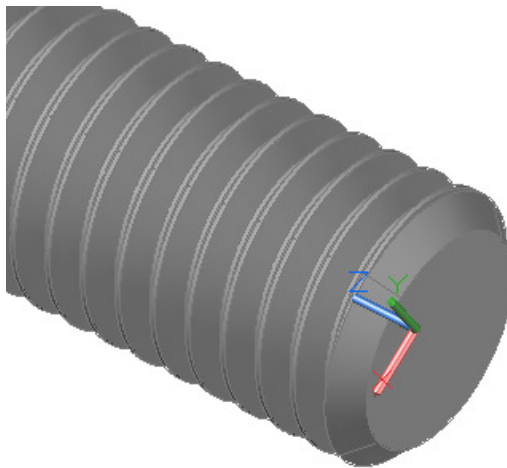

Figure Step 18A
Step 18 Union the two solids together and chamfer the end of the bolt using the dimensioned drawing as a reference. (Figure Step 18A and 1B)